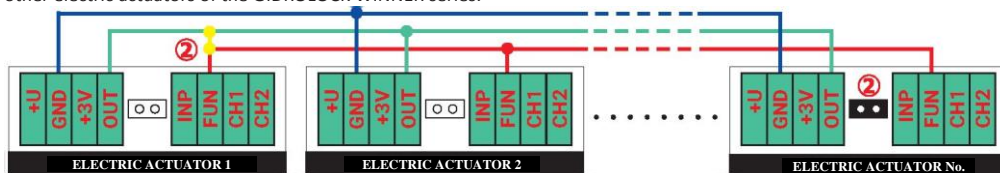

Fig. 1. Combining several electric ball valve actuators of the GIDROLOCK WINNER series into a system
Several electric actuators can be connected to the master device (Fig. 1). Terminals for combining two or more electric actuators into a single system: **OUT, GND, FUN.**
ATTENTION! In one of the electric actuators, connect the **OUT and FUN terminals** together or install a **jumper (2)** (Fig. 1, Photo 8).